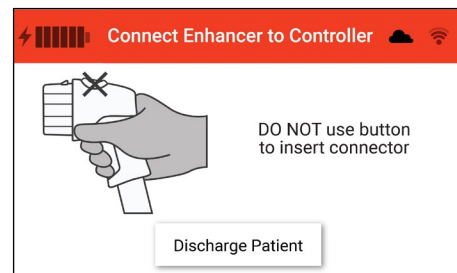

Figure 31. Enhancer disconnected alert screen
2. If the Keep Enhancer Connected Prompt is not addressed within five (5) minutes, an auditory alert will occur for three (3) minutes and repeat every hour that the alert is active. (Fig. 31)
1. If the enhancer is disconnected while running, an auditory alert will sound for five (5) seconds and an alert screen will appear. Reconnect the enhancer into the front of the controller to dismiss the prompt. Do not use the button to insert the connector. Push until there is a click. (Fig. 31)
- If the Connect Enhancer to Controller Alert is not addressed, an auditory alert will occur for five (5) seconds every hour that the alert is active. (Fig. 31)